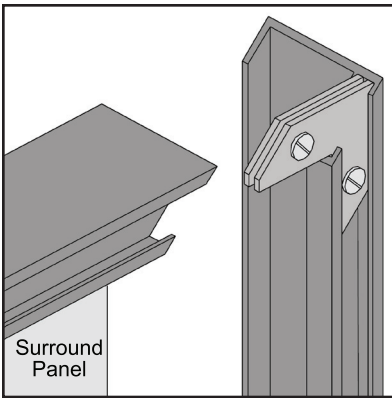
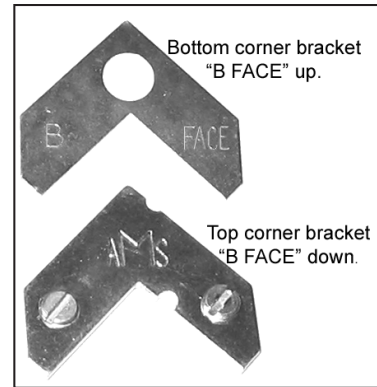

Figure 35: Corner brackets for trim.
Figure 36: Two pieces of corner bracket.
1. Attach one side trim to the top trim, using a corner bracket (see Figure 35) to secure pieces together. There are two (2) main pieces to each corner bracket (see Figure 36). When installing the corner pieces into the trim, the "B FACE" sides must face each other and the screw heads are to face out. With the bracket in place and the top and a side trim snug together, use a flat head screwdriver to turn the two (2) screws in the bracket to tighten it into the trim. Do not over-tighten the corners or the side trim cannot be removed during servicing.